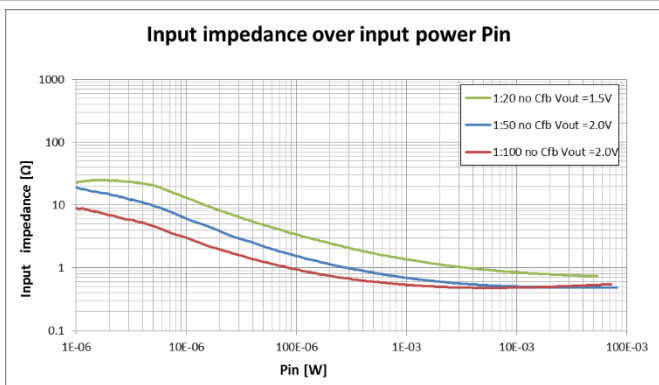
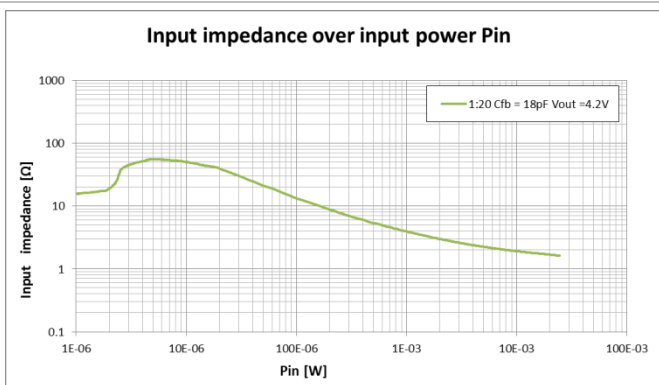

Figure 3-2 Input Impedance vs Power No C_{FB}
Figure 3-8 Input Impedance vs Power C_{FB} 18 pF
The Figure 3-2 to Figure 3-8 allow extracting the DCDC input impedance R_{IN} as a function of P_{IN} , C_{FB} and the transformer turn ratio.
- According to the Figure 3-8, the ideal TEG electrical resistivity is about 4 Ω at 1 mW.
According to Figure 3-8 the input impedance of the DCDC converter is: $R_{IN} = 3.5 \Omega$ at 1.61mW